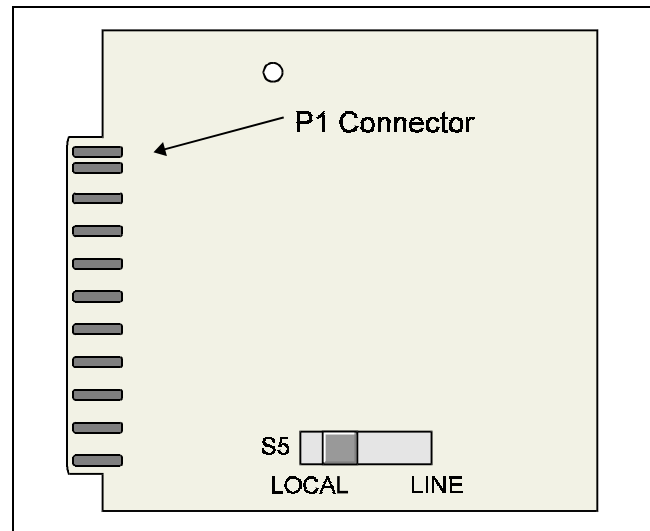

Figure 4. HLU-D41 Rear Card Edge with Local/Line Switch. Switch allows user choice for HRU-512 local or line powering.
7.05 The HLU-D41 contains two separate power converters. The linear regulator converts the D4 channel bank DC power (+5 VDC and -12 VDC) to logic power for the HLU-D41 circuits. The line power supply converts the D4 channel bank DC power (-48 VDC) to a -170 VDC feed to power the Remote Unit. The LOCAL/LINE power switch (shown in Figure 3) is located at the rear of the D41 (shown in Figure 4). The switch gives the user the choice between powering the HRU-512 over the HDSL cable pair (LINE) or allowing the HRU-512 to be locally powered (LOCAL). The line power supply can also be turned on or off by the microprocessor and is automatically shut down in the presence of line short circuits or a microprocessor failure.